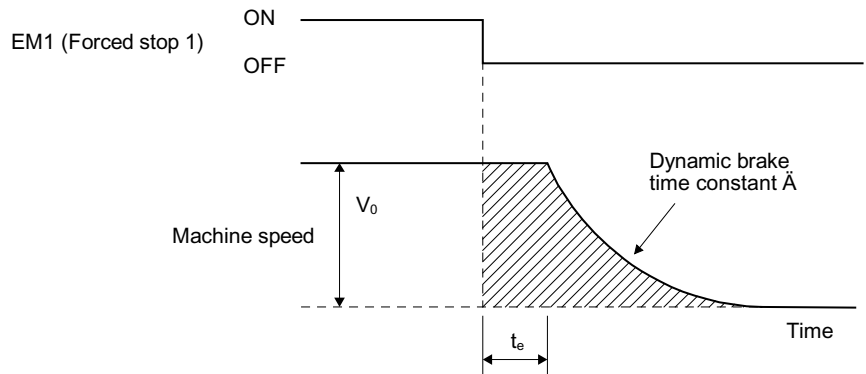

Fig. 10.3 Dynamic brake operation diagram
(1) Calculation of coasting distance
Fig. 10.3 shows the pattern in which the servo motor comes to a stop when the dynamic brake is operated. Use equation 10.2 to calculate an approximate coasting distance to a stop. The dynamic brake time constant \ddot{A} varies with the servo motor and machine operation speeds. (Refer to (2) in this section.)